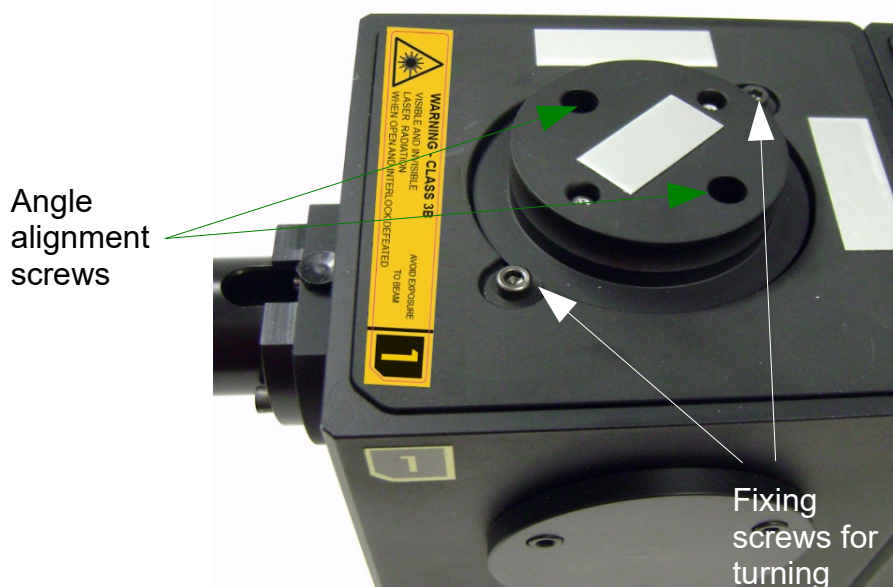

Fig. 7.3: Alignment of the filter holder
1. Please note that an alignment of the Filter Holder effects only the detector which gets the light deflected by the dichroic inside the Filter Holder (see red arrow in Fig. 7.3).
4. Set everything up to detect a constant count rate of 100 kcps at the detector, which gets the light deflected by the dichroic inside the Filter Holder (see red arrow in Fig. 7.3).
The two angle alignment screws indicated with the green arrows in Fig. 7.3 press from both sides against the plate which is holding the dichroic. By fastening one screw while loosening the other the angle of the dichroic can be changed.
The big round knob at the filter holder can be turned when loosening the fixing screws marked by the white arrows in Fig. 7.3.
13. Mark now the present position with some marker as indicated by the blue line in Fig. 7.3. By this means the present position can be easily recovered.
14. Now loosen the two screws marked by the white arrows in Fig. 7.3 slightly. Now you can turn the big round knob a few degrees and optimize the count rate.
15. If the count rate is maximized you can fix the two screws marked by the white arrows in Fig. 7.3.